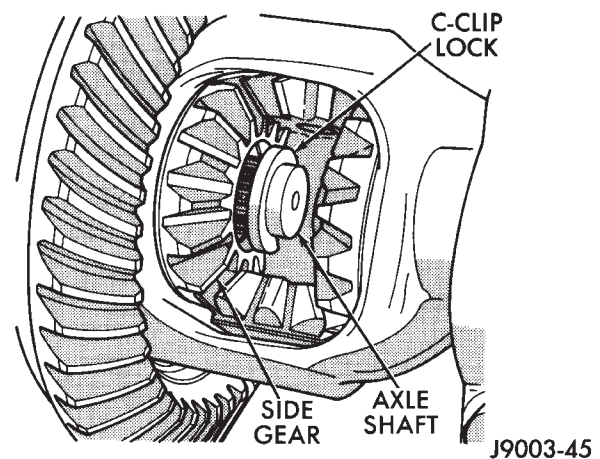

Fig. 4 Axle Shaft C-Clip Lock
- (7) Push the axle shaft in toward the center of the vehicle. Remove the axle shaft C-clip lock from the axle shaft (Fig. 4).
- (8) Remove the axle shaft. Use care to prevent damage to the axle shaft bearing, which will remain in the axle shaft tube.
- (9) Inspect the axle shaft bearing contact surface area for indications of brinelling, spalling, and pitting.
(Fig. 4). Push the axle shaft outward to seat the C-clip lock.